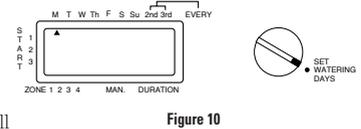

Figure 10
3. Press **ENTER** to record the day. (See Figure 10.) The indicator will remain solid on the days assigned to watering. The indicator will advance to the next day automatically and blink after you press **ENTER**. To skip to the next day press **NEXT**.